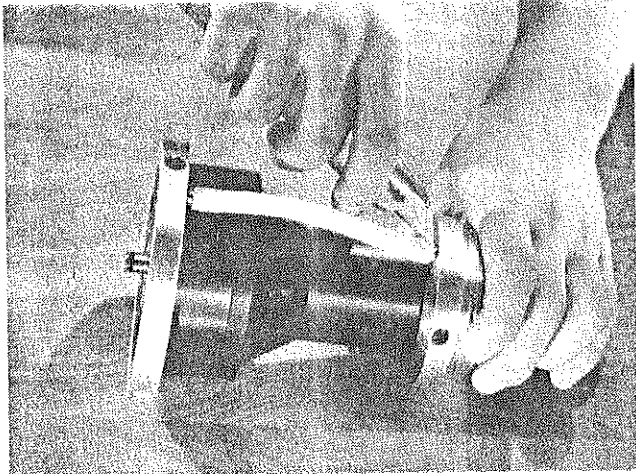

FIG. 6
1. Remove the air tubing located between the two rings. To facilitate removal, cut the tubing over both barbed fittings (Fig. 6).